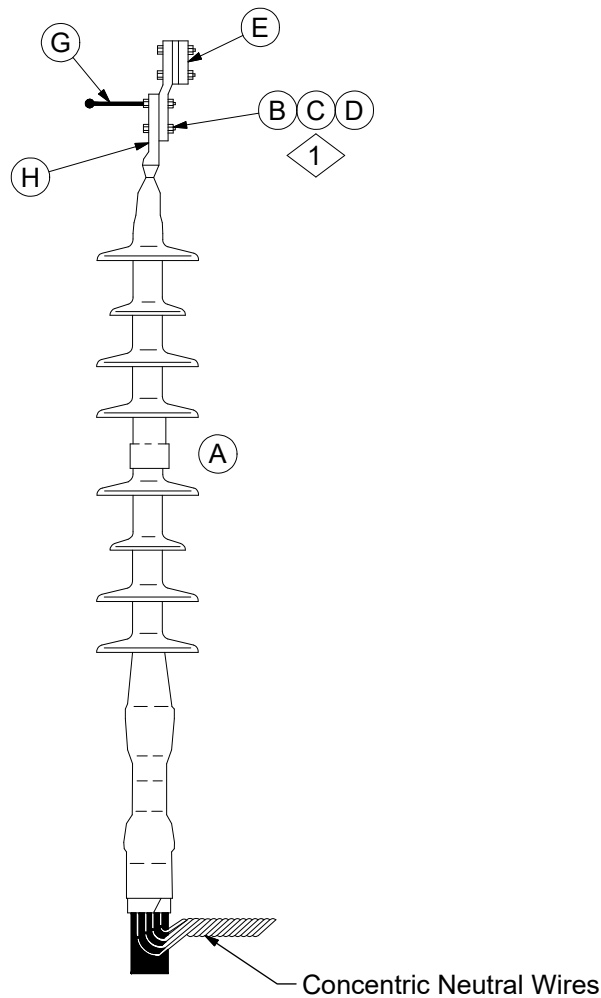

Figure 6
- For 1/0 - 750 kcmil outdoor installations, attach a bronze four bolt lug to the compression lug or shearhead bolt lug using a ground stud in the upper hole and a 1/2" x 2" bolt in the lower hole. See Figure 6.